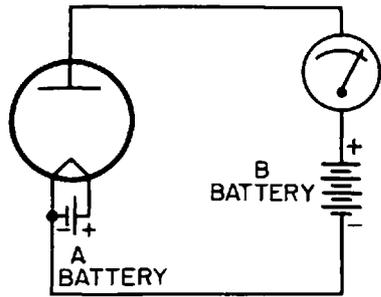

Fig. 15-1. Diode using a B battery to place a positive charge on the plate of the tube. Current flows through the meter.
**A and B Batteries.** The circuit traveled by the electrons—starting from the filament of the tube and going across the vacuum in a stream to the plate and back again to the filament by way of the path provided by the meter, battery, and wire—is known as the *plate circuit*. The battery used to place a positive charge on the plate is known as the *plate battery*, or *B battery*. The battery used to heat the filament is known as the *filament battery*, or *A battery* (Fig. 15-1).